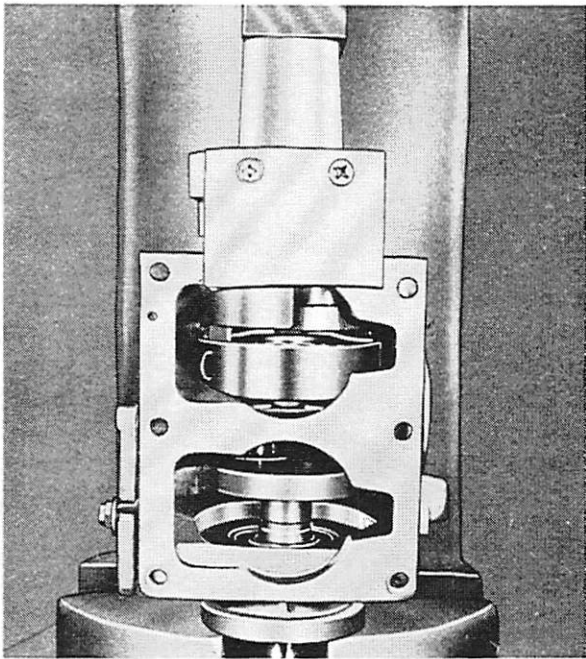

Figure 12. Installing Center Main and Crankshaft into Crankcase.
8. Invert assembly and place on arbor press plate, then press in until tool bottoms on crankcase. (Figure 12)